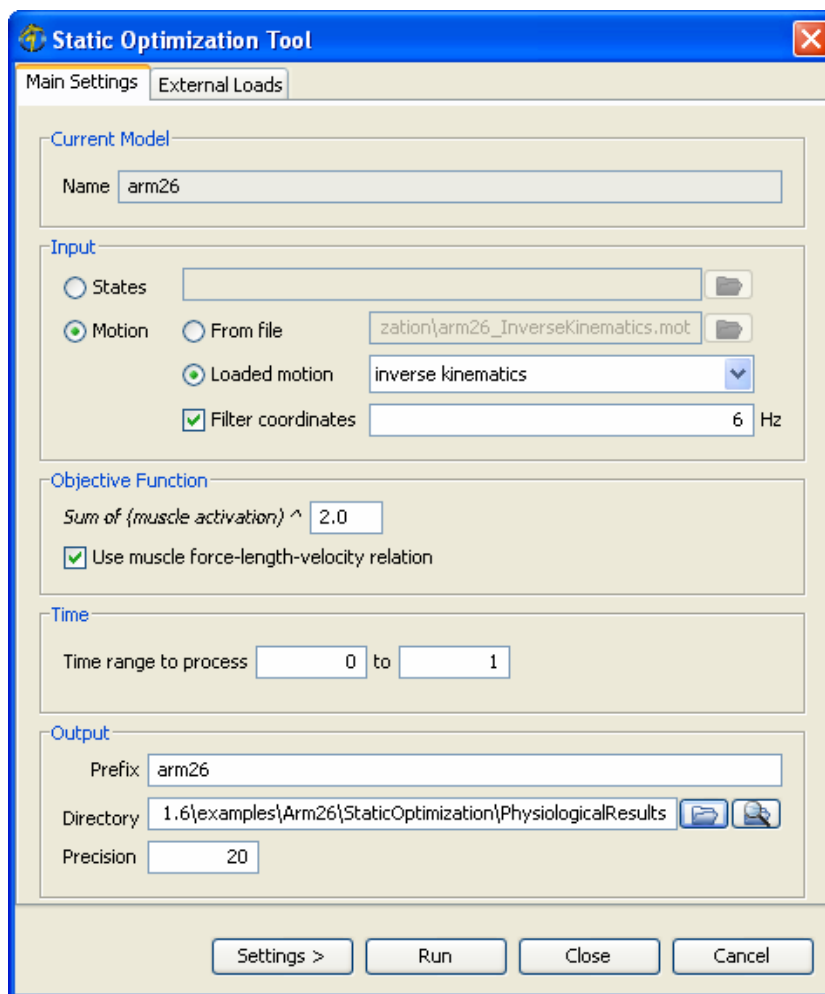

Figure 5-1: Dialog for the Static Optimization Tool. The main settings pane.
To launch the Static Optimization Tool, select **Static Optimization...** from the **Tools** menu. The **Static Optimization Tool** dialog (Figure 5-1) like all other OpenSim tools operates on the *Current Model* open and selected in OpenSim (e.g. *arm26*). The Static Optimization Tool is controlled by a dialog with two tabbed panes. The **Main Settings** pane specifies parameters relating to the input kinematics of the current model, the time range for the analysis, and the output of the results. The **External Loads** pane specifies parameters relating to the external loads applied to the model during the analysis.
The Main Settings pane (Figure 5-1) is organized into five main sections entitled **Current Model**, **Input**, **Objective Function**, **Time**, and **Output**. The **Current Model** section displays an uneditable name for the current model being used for the static optimization analysis. The **Input** section displays editable information specifying the kinematics (e.g., states or motion) describing the movement of a model. The **Objective Function** section
1. **Open Static Optimization Tool.** To open the tool (Figure 5-1), select **Static Optimization...** from the **Tools** menu.